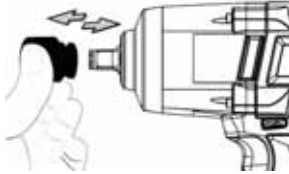

Fig. 1
1. To install the socket, push the socket into the driving spindle as far as it will go. (See Fig. 1).